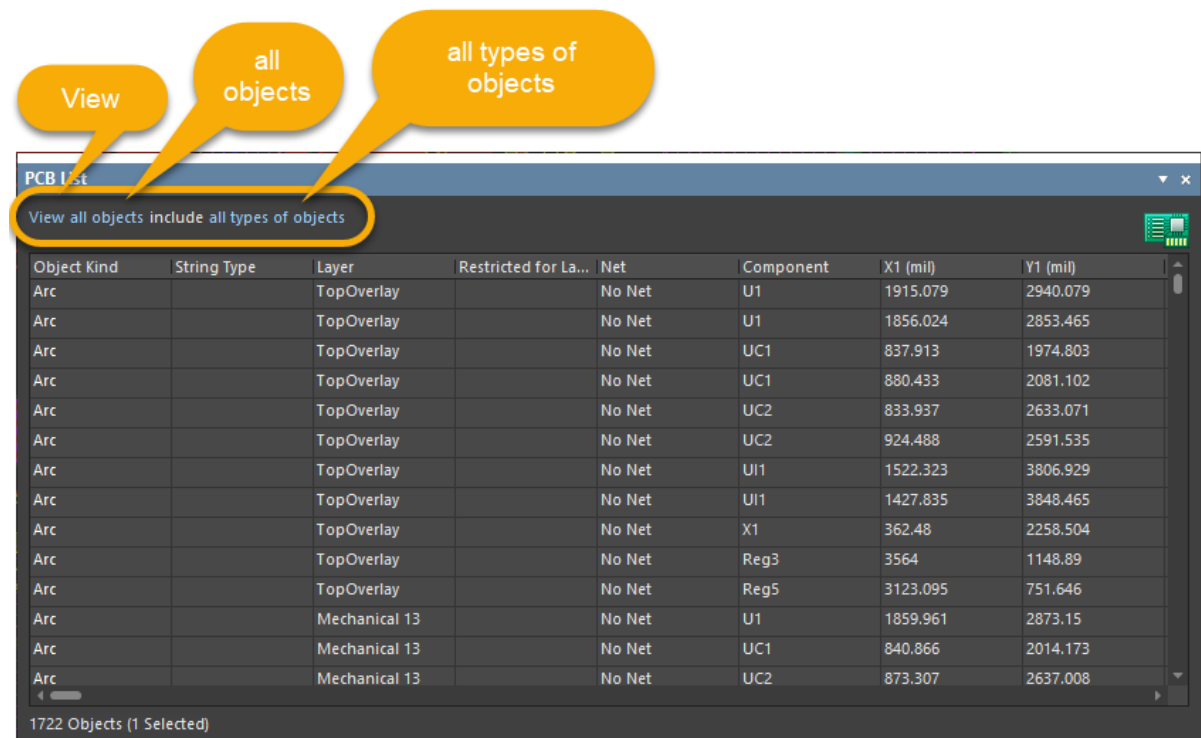

Figure 12. *PCB List* panel showing All Objects in the design
39. Change the list settings in the top-left corner of the panel to match those shown in Figure 12, by clicking on the words with the hyperlink.